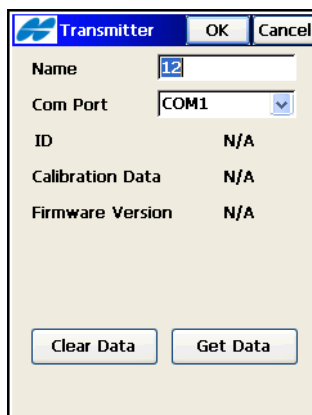

Figure 8-14. Enter and Get Transmitter Data
- On the *Transmitter* screen (Figure 8-14), enter a *Name* for the transmitter (usually the serial number), select the *Com Port* for the transmitter (usually COM1), then tap the **Get Data** button (Figure 8-14).